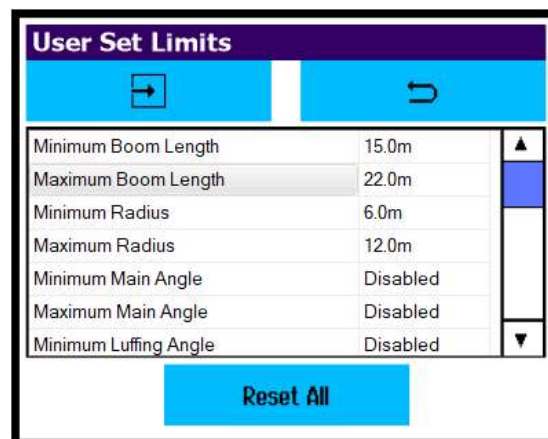

Figure 17
9.  **User Limit Setup** – Press the screen at the bottom where the date & time or error code is displayed to access the User Limit Setup screen (Figure 17). Highlight the required limit to be set by pressing on the description, press the Select button to access the keypad and type in the limit that is required. Once all the limits have been set press the Back button to return to the working screen. To disable the limit, highlight the limit by pressing on the description and press the **Disable Selected** button, **Disabled** will then be displayed next to the description and the limit will now be disabled. To disable all limits, press the **Reset All** button.